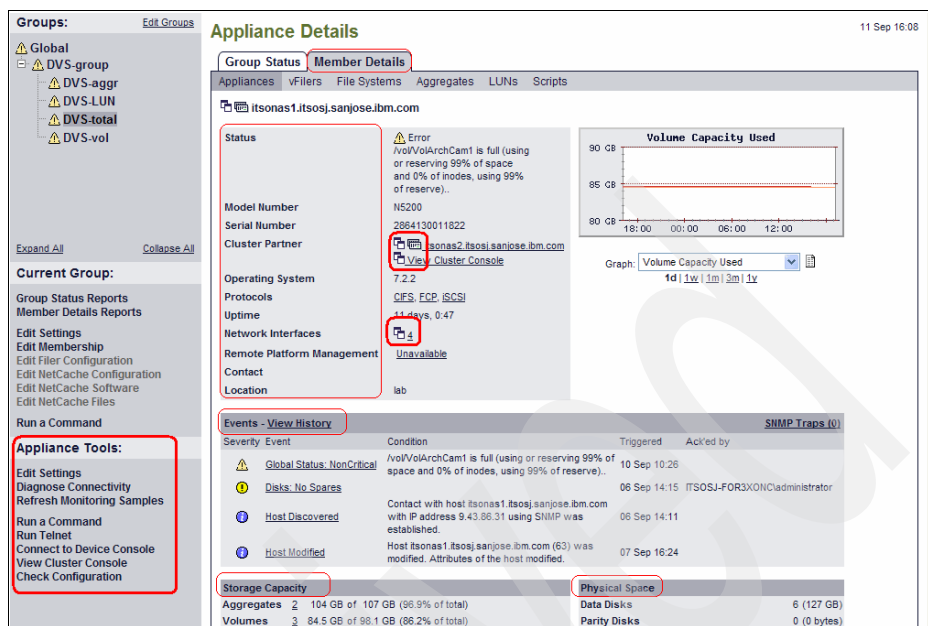

Figure 10-18 Member Detail report
- To see each member's detail report, click the **Member Detail** tab, which is on the top the report, as shown in Figure 10-18 on page 373. Click the object (in Figure 10-18 on page 373, it is Appliance).
In the Member Detail report, Figure 10-18, you can see the detail information for a specific object (in this example, it is Appliance: itsonas1 in domain itsosj.sanjose.ibm.com).